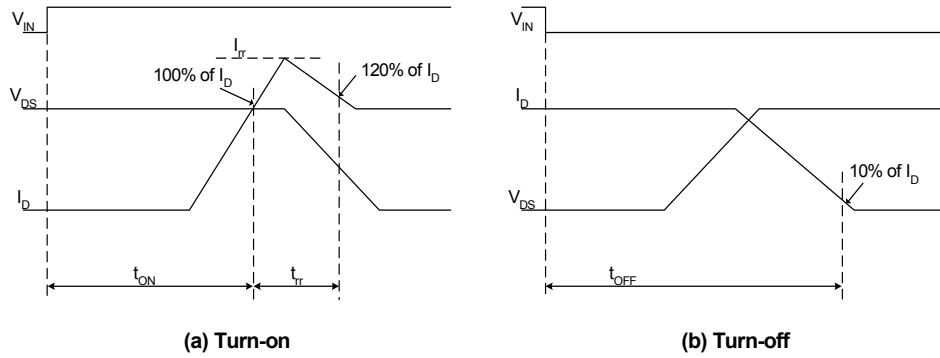

Figure 7. Switching Time Definitions
5.  $t_{ON}$  and  $t_{OFF}$  include the propagation delay of the internal drive IC. Listed values are measured at the laboratory test condition, and they can be different according to the field applications due to the effect of different printed circuit boards and wirings. Please see Figure 6 for the switching time definition with the switching test circuit of Figure 7.
6. The peak current and voltage of each MOSFET during the switching operation should be included in the Safe Operating Area (SOA). Please see Figure 7 for the RBSOA test circuit that is same as the switching test circuit.